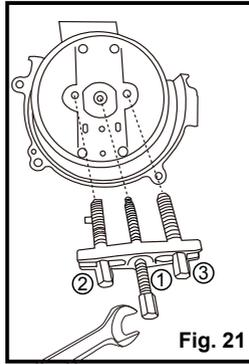

Fig. 21
- The flywheel can be removed by a puller (Fig. 21). Choose an appropriate puller to remove the flywheel. Before using the puller, rotate screw rod ① counter-clockwise till it is 1/4 to 1/2 its length through. Ensure screw rods ② and ③ are protruded longer than screw rod ①. Rotate screw rods ② and ③ clockwise into the corresponding threaded holes as shown in Fig. 21. Make sure screw rods ② and ③ are level and in same length. Then use a spanner to rotate screw rod ① clockwise until the flywheel is removed. Rotate screw rods ①, ② and ③ counter-clockwise to remove the puller from the flywheel.